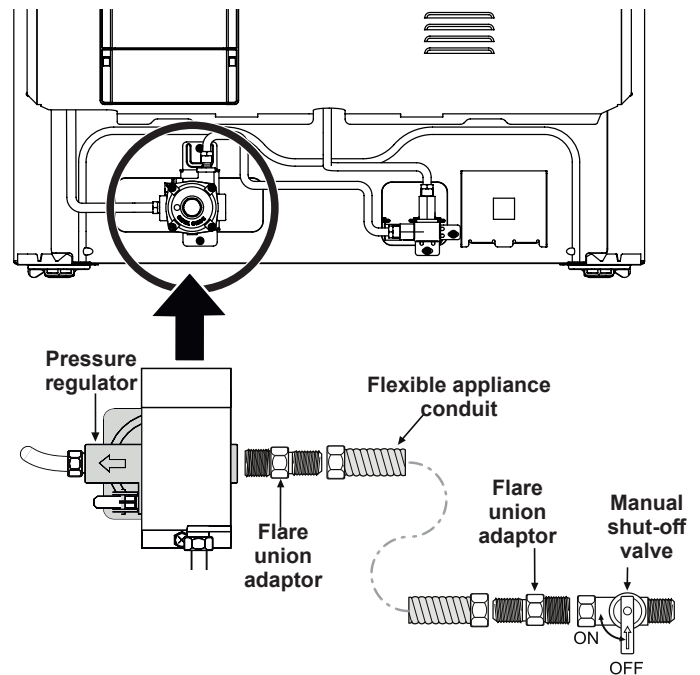

Fig. 8 - gas supply connections
- a. Install an external manual gas shut-off valve to gas supply line in an accessible location outside of range. Be sure you know where and how to shut off the gas supply to the range (See Fig. 8).
- b. Install 1/2" flare union adaptor to gas pressure regulator using no more than 15ft./lbs. of torque (Refer to Fig. 8).
- d. Install flare union adapter to external manual shut-off valve (See Fig. 8).
- e. Attach flexible appliance conduit to flare union adaptor on shut-off valve (See Fig. 8).